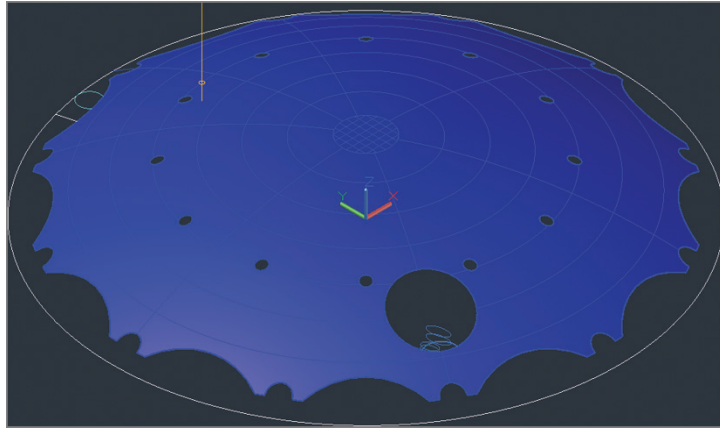

FIGURE 17.15 Trimming holes in the dome to accommodate the masts
6. Hover the cursor over the Layer Properties Manager's title bar to reveal the palette. Double-click the Cylindrical Towers layer's icon to set it as current. Toggle off the Dome Voids layer. Figure 17.15 shows the result.